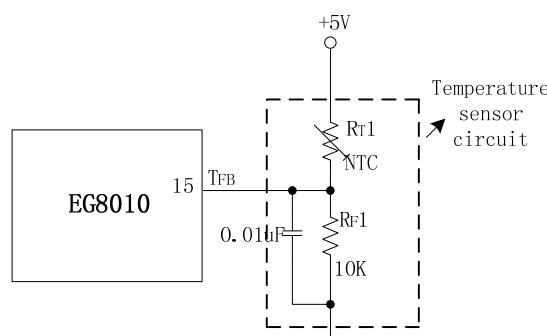

Figure 8.3a EG8010 Temperature detection circuit
Pin TFB measures inverter's environment temperature. Its main functions are overtemperature protection detection and displaying the environment temperature onto 128x32 LCD. For temperature detection circuit shown in figure 8.3a, NTC thermal resistor RT1 and measuring resistor RF1 form a simple voltage divider circuit. Voltage changes as the NTC resistance changes, and thus we can acquire the corresponding temperature. Thermal resistor has 10k resistance at 25°C ($B=3380$). Pin TFB's overtemperature voltage sets at 4.3V. EG8010 will set the level of SPWMOUT1 to SPWMOUT4 at "0" or "1" and shut down all power MOSFET to decrease the voltage to zero depending on pin (9)PWMTYP's setting. Once overtemperature protection activates, EG8010 will re-determine environment temperature. If pin TFB's voltage is below 4.0V, EG8010 will turn off overtemperature protection and the inverter functions regularly. If overtemperature protection is not used, this pin needs to be grounded.